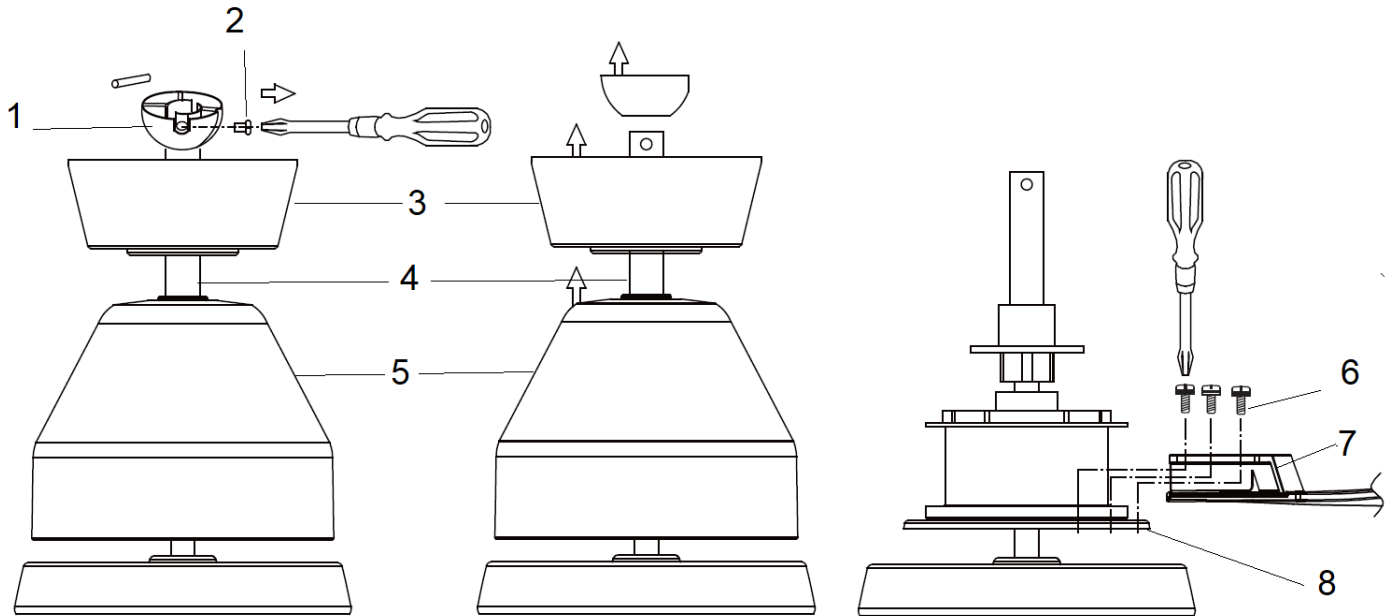

Fig. 6
INSTALLATION OF BLADE (Fig. 6)
- Remove the ball joint (1) by loosening the set screw (2). Fig.6
- Remove the canopy (3) and the motor housing (5) from the down rod (4).
- Secure the blade (7) to the blade holder (8) by tightening the 3 blade screws (6).